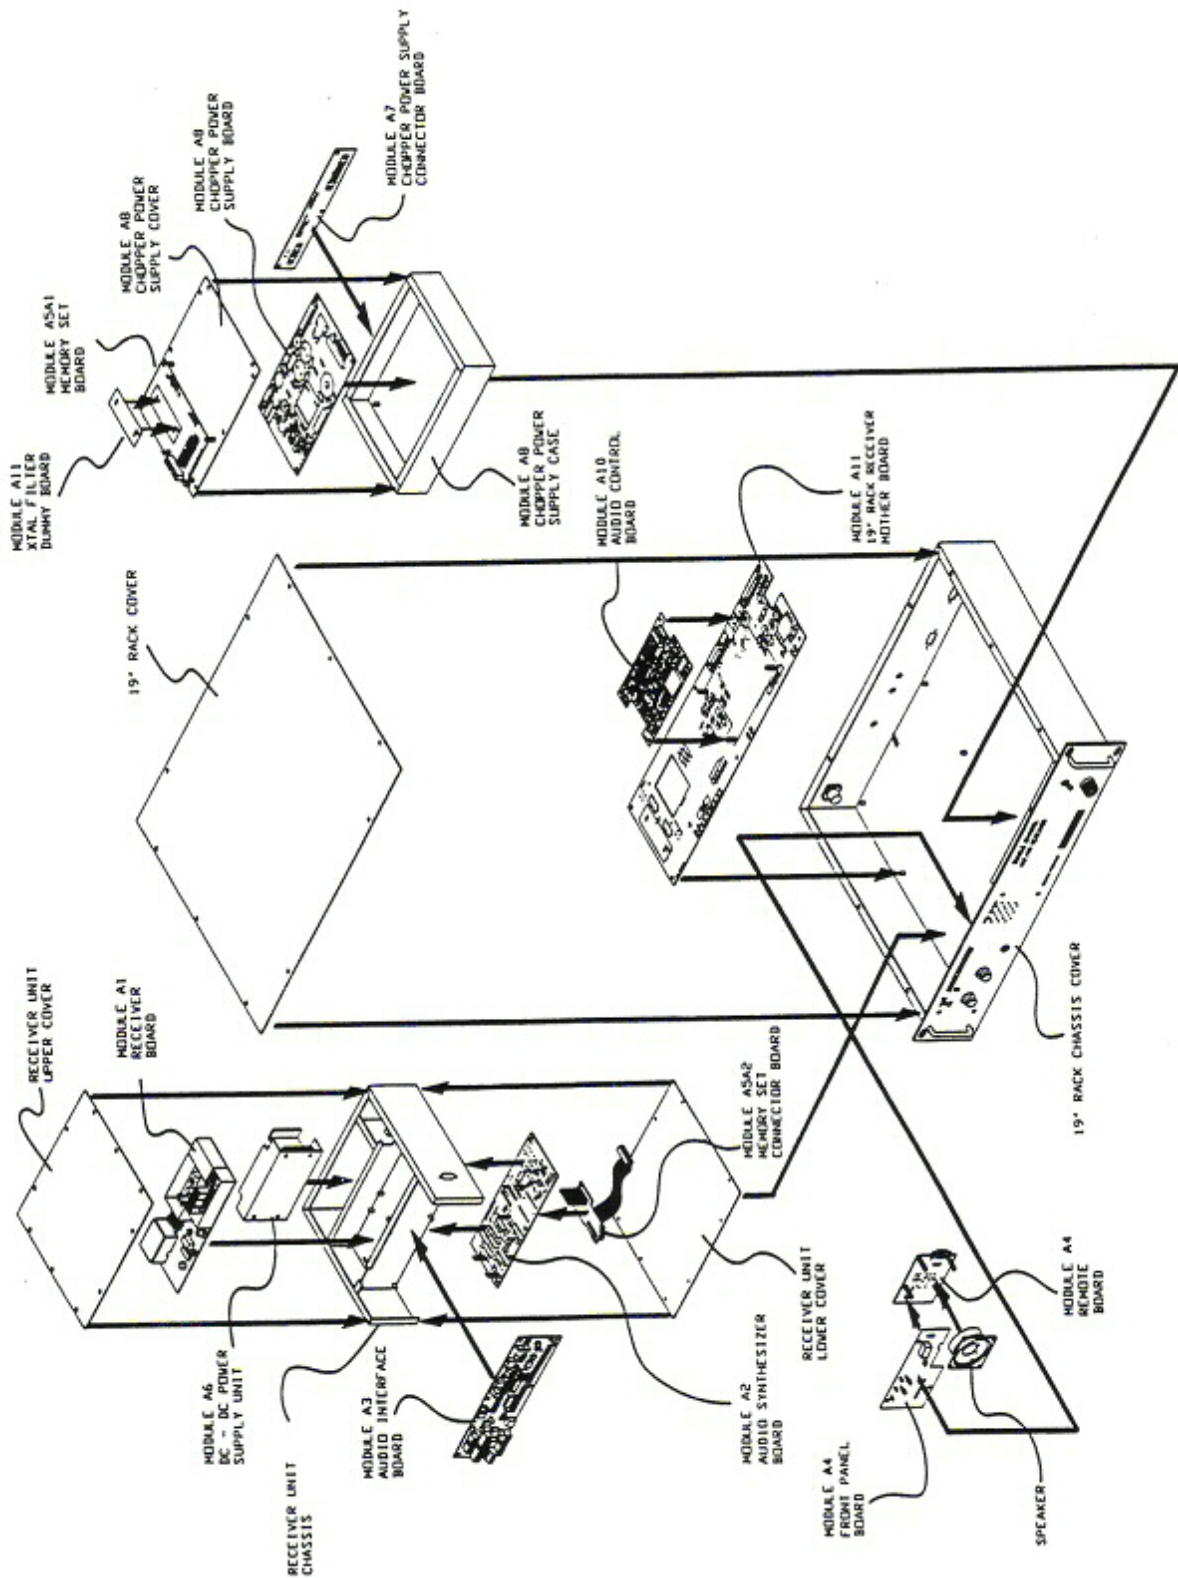

Figure 2.1 Single Channel Receiver - Internal View
2.2 DISASSEMBLY/ASSEMBLY (Refer to Figure 2.1)
- (1) Remove and retain twelve screws securing top dust cover to the 19" rack chassis.
- (2) Please note the location of the three longer screws which travel through the heatsink shims riveted to the inside of the top cover.
- (3) Lift cover clear of chassis to expose internal view of receiver as shown in Figure 2.1.
- (1) Remove dust cover as described in paragraph 2.2.1.
- (2) Remove and retain four screws securing Memory Set Board, Module A5A1 "piggy back" to the standoffs on the power supply cover. (See Figure 2.1 for location)